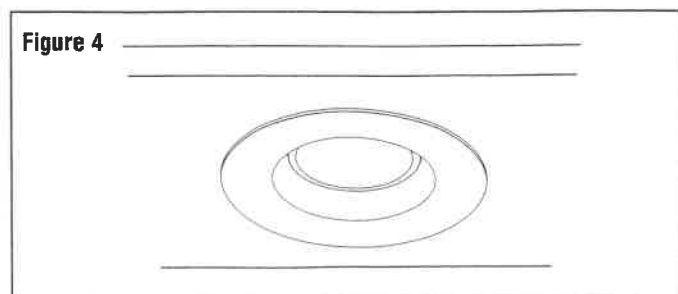

Figure 2
2. Squeeze the torsion springs together as shown and install into torsion spring brackets inside the housing. (Fig. 2)